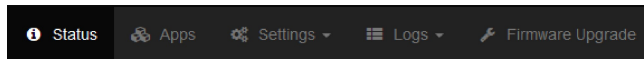

Figure 26
7. A web interface with a menu bar as in Figure 26 will be shown.